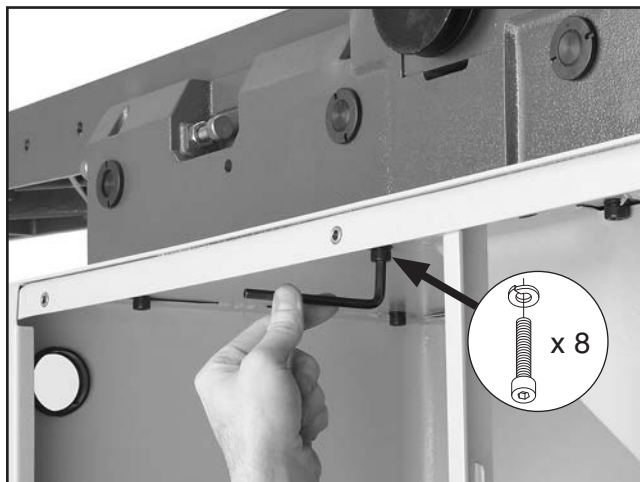

Figure 13. Securing the jointer assembly to the stand.
17. Attach jointer assembly to the stand with (8) M8-1.25 x 25 cap screws and (8) 8mm lock washers, as shown in **Figure 13**.